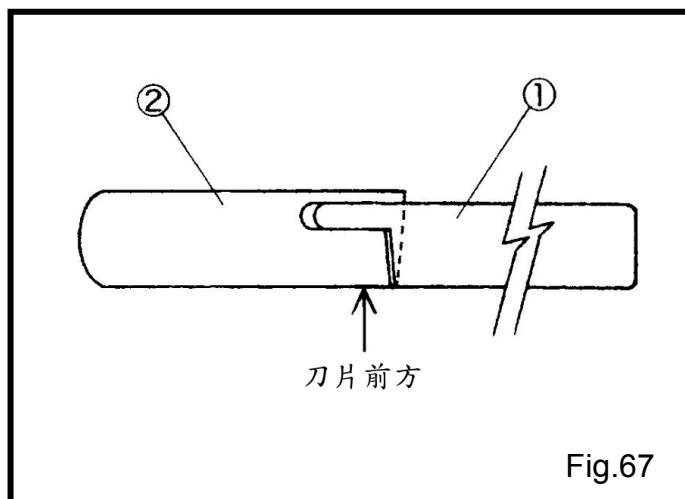

Fig.67
- (1) 當針在最高點，上切刀在左邊時壓腳要貼著針板上，上切刀 (1) 刀刃要貼合下切刀 (2) 的刀刃。(Fig.67)
上刀 (1) 和下刀 (2) 成一直線時，上刀不能碰到壓腳壁，正確後固定彈簧軸環。(Fig.67)
- (1) When the needle is at the highest point and the upper knife (1) is at the extreme left, the presser foot touches the stitch plate, and the upper knife (1) touches the lower knife (2) closely. (Fig.67)
Align the front sides of the upper (1) and lower (2) knives without touching the upper knife to the presser foot. After check them, fix the knife holder guide collar (4) with the screw. (Fig.67)